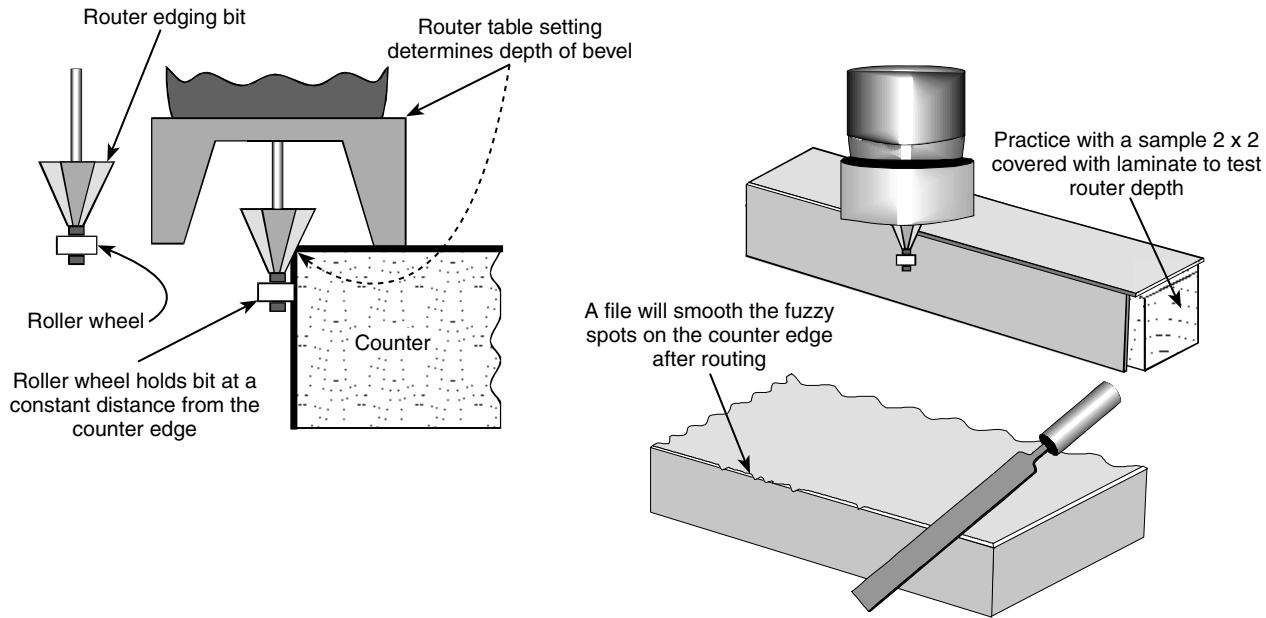

Figure 17-1
6. Trim the edge strip with a router fitted with a carbide-tipped flush-cutting bit; see Figure 17-1. Trim flush with the countertop in a counter-clockwise motion.